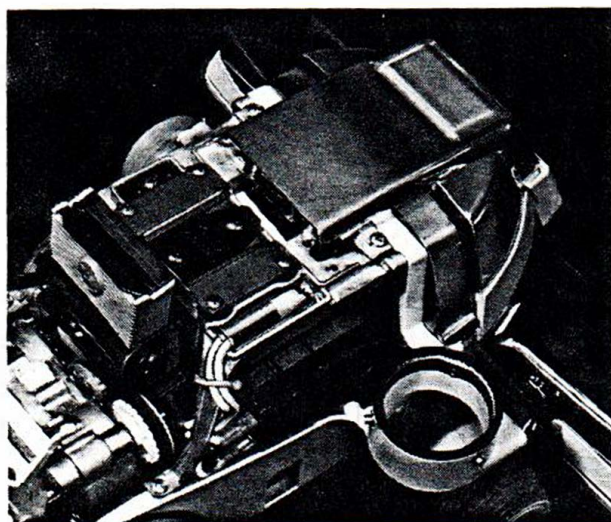

Figure 5. Headlight Cap/Slide Bracket Assembly and Handle Pivot Assembly (Rear)
- A. See Figure 5. One of the headlight leads has an in-line connector covered by a clear piece of insulating tubing.